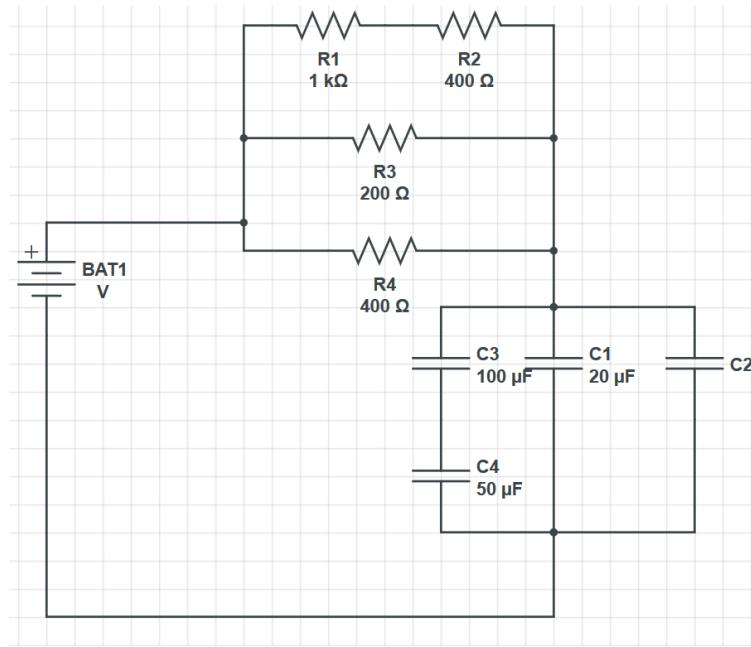

Figure 4.7: Time constant practice.
14. Answer the following in the results section of your log book. Your draft calculations can be shown in the “General Notes” section of the log book. Given Fig. 4.7, what must be the value of C_2 such that the time constant of the equivalent circuit is approximately $\tau = 12.5\text{ms}$? If one replaces C_2 by two capacitors in series, one of which has $C_5 = 250\mu\text{F}$. What must be the capacitance of the second capacitor to preserve the same time constant?